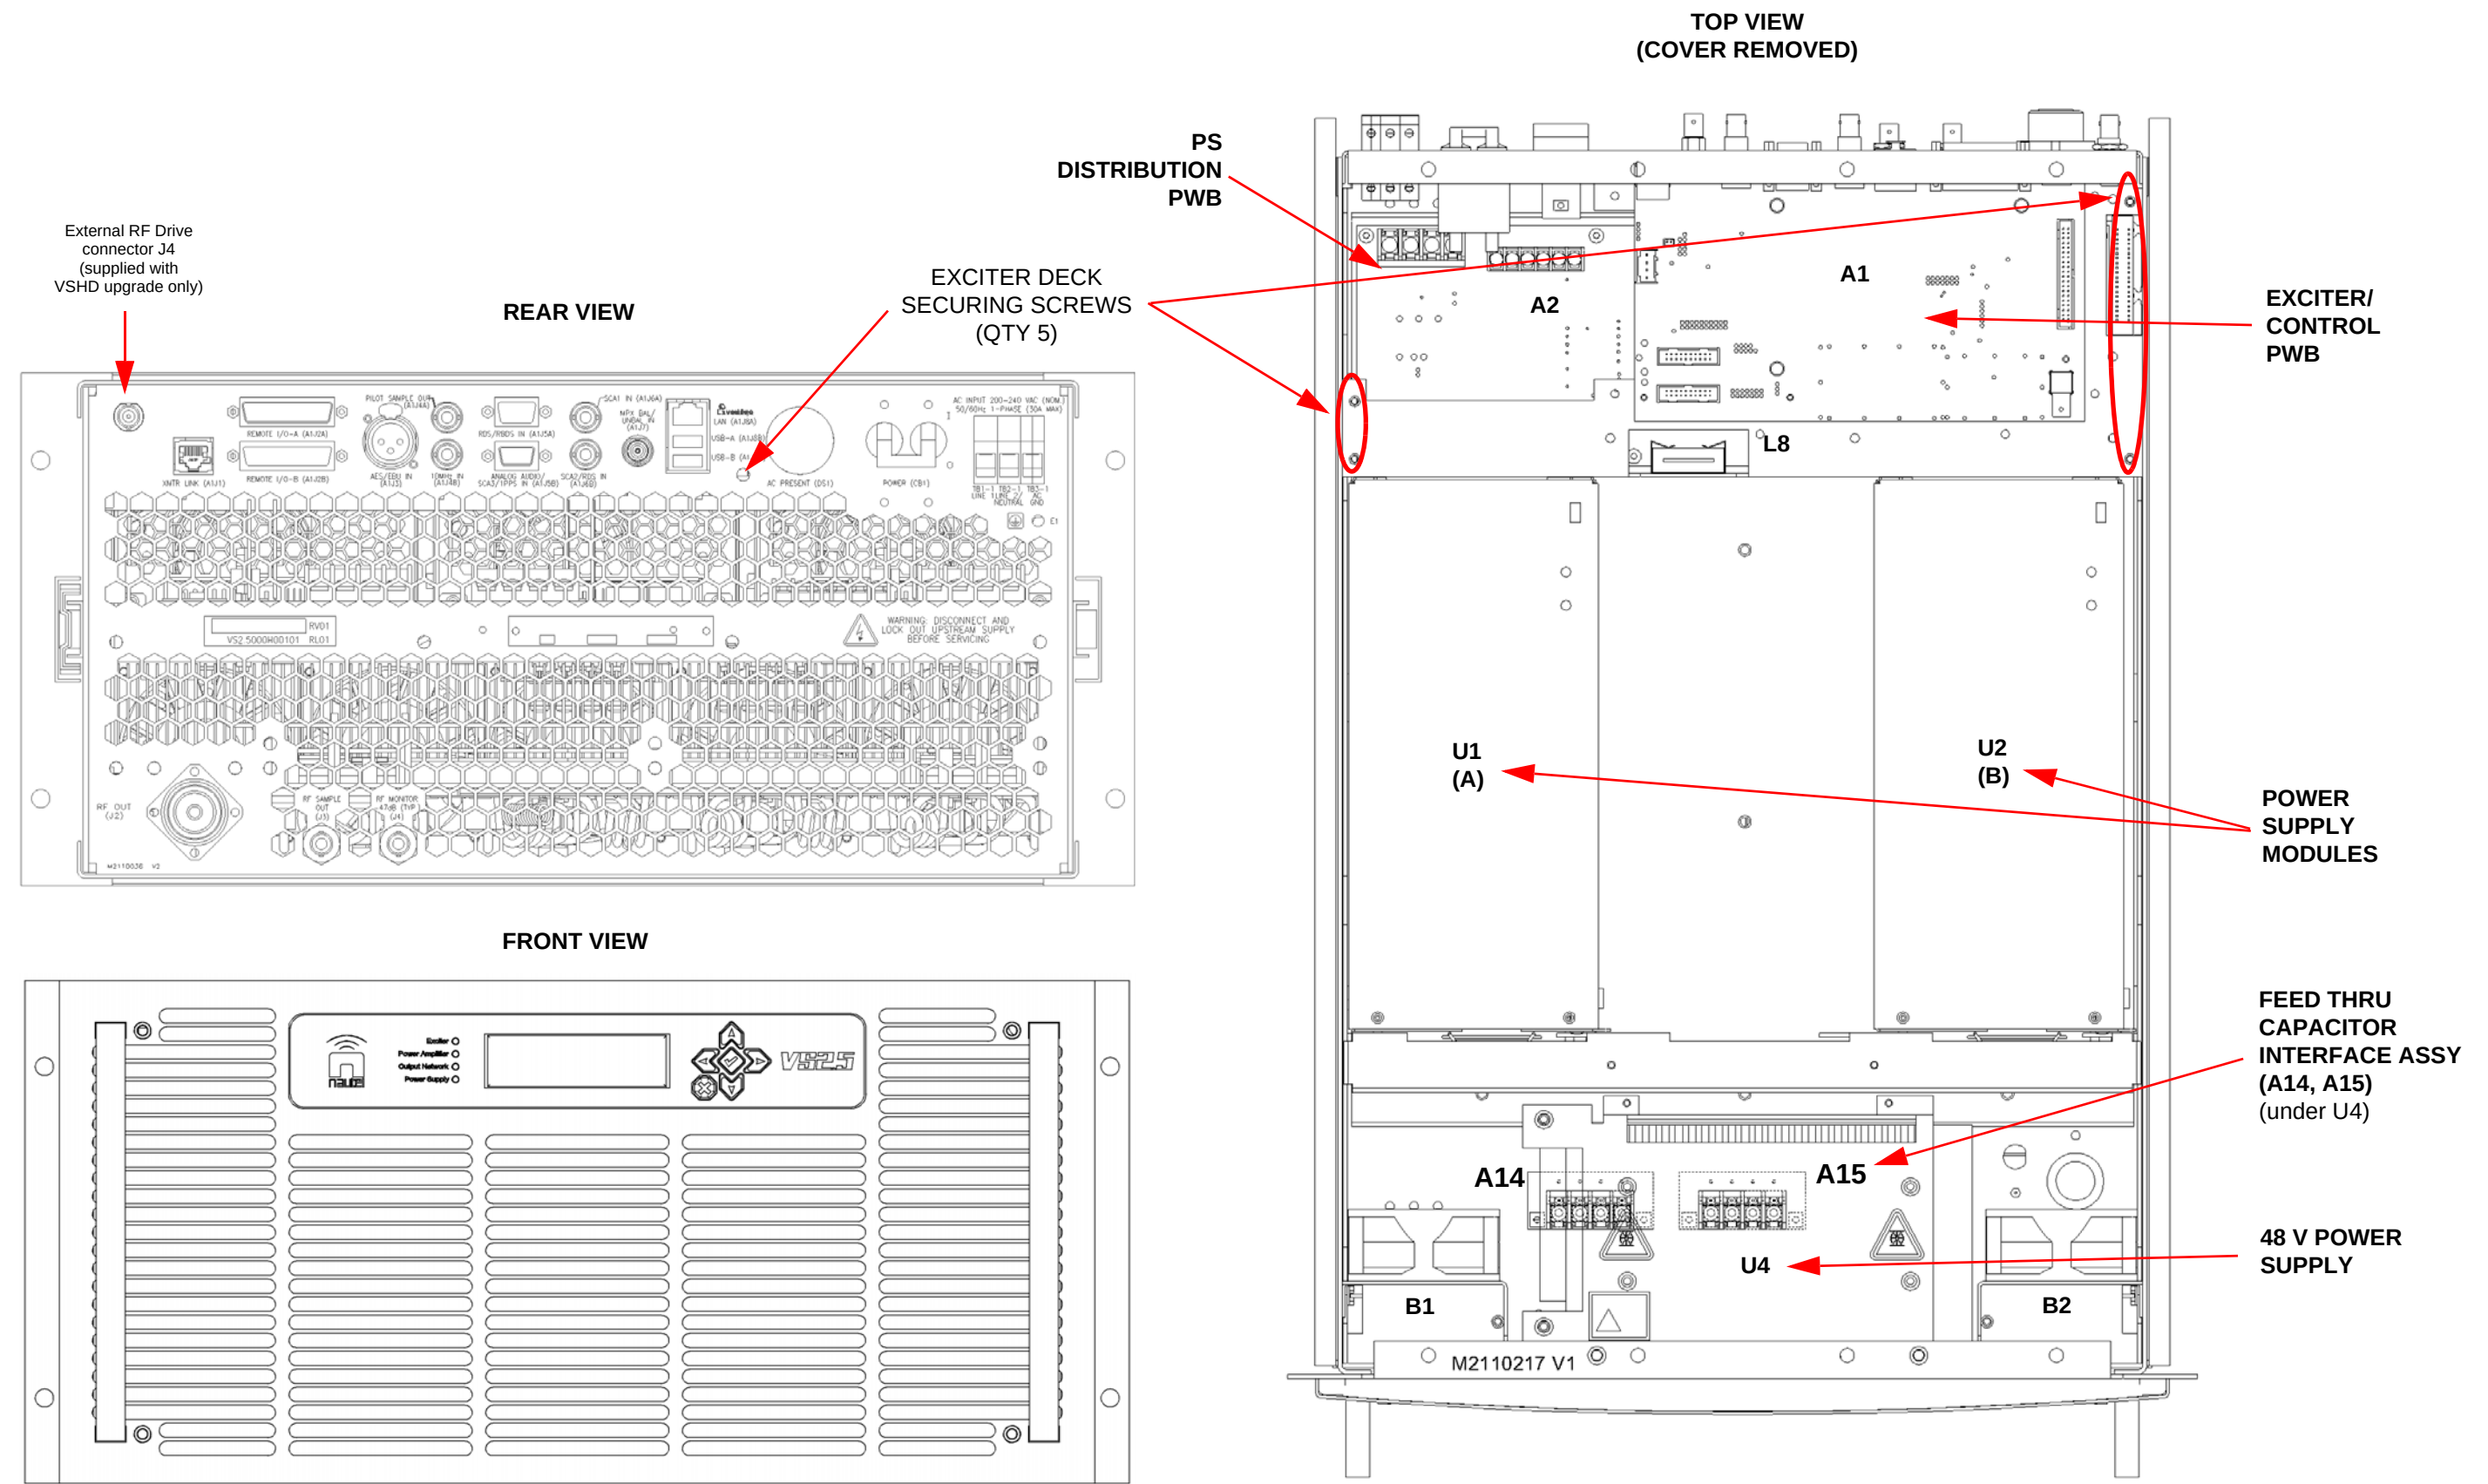

Figure MD-1: VS2.5 Transmitter (Front, Rear and Top Views)
3. Refer to Table 6.1 in Section 6, “Mechanical Drawings” on page 6-1. Use the Nautel nomenclature and name of each family tree block in the path, starting at the highest assembly – this is normally Figure MD-1 – to determine the figure number(s) for that assembly.